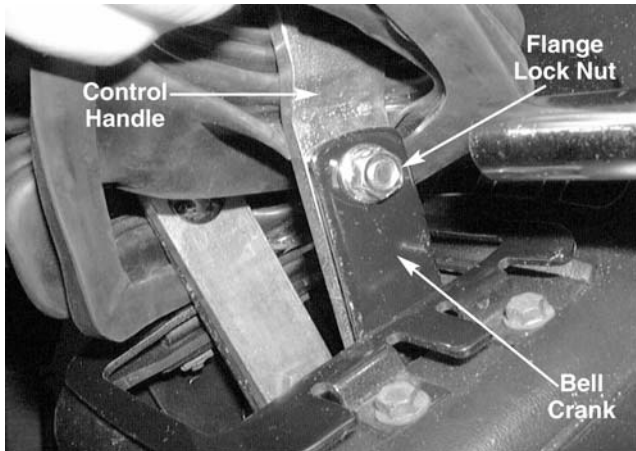

Figure 10-2.
- Remove the carriage bolt and flange lock nut securing each drive control handle to the upper left and right bellcrank assemblies using a 1/2" socket. See Figure 10-2.